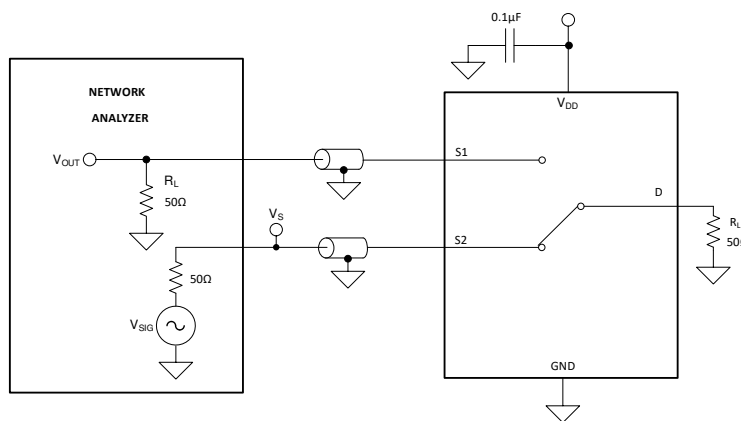

**Figure 6-7. Off Isolation Measurement Setup**
Off isolation is defined as the ratio of the signal at the drain pin (D) of the device when a signal is applied to the source pin ( $S_x$ ) of an off-channel. Figure 6-7 shows the setup used to measure, and the equation used to calculate off isolation.